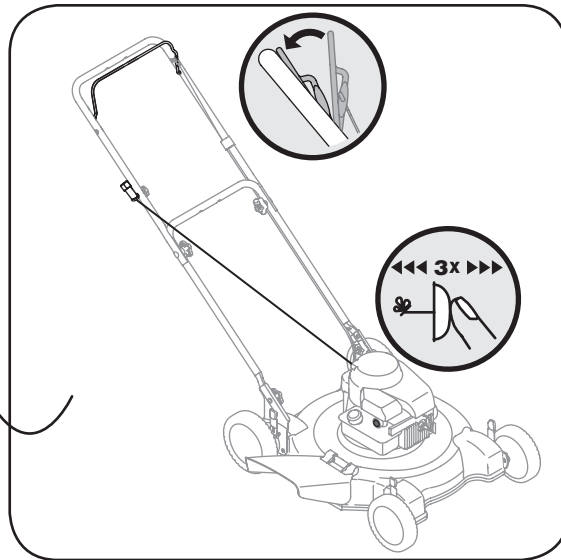

Figure 4-2: To start mower, prime the engine, squeeze blade control, and pull recoil starter.
1. Push primer (if equipped) three times. Wait about two seconds between each push. See Figure 4-2. In temperature around 55°F or below, prime five times. Do not prime to restart a warm engine.
2. Standing behind the mower, squeeze the blade control against upper handle. See Figure 4-2.
3. Holding these two handles together firmly, grasp recoil starter handle and pull rope out with a rapid, continuous, full arm stroke. See Figure 4-2. Keeping a firm grip on the starter handle, let the rope rewind slowly. Repeat until engine cranks. Let the rope rewind each time slowly.